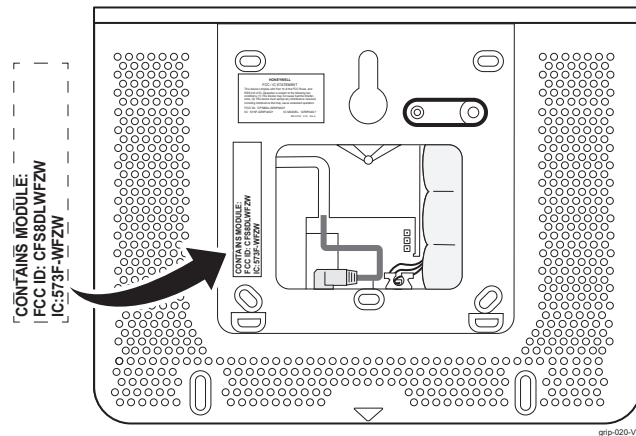

Figure 1. FCC/IC Label Location (ADT7AIO Shown)
1. Affix the provided FCC/IC label (P/N 800-24286) on the control's case back (refer to Figure 1).